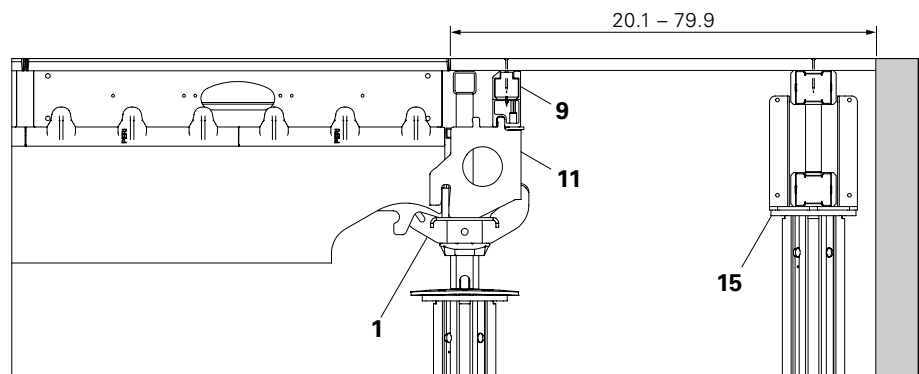
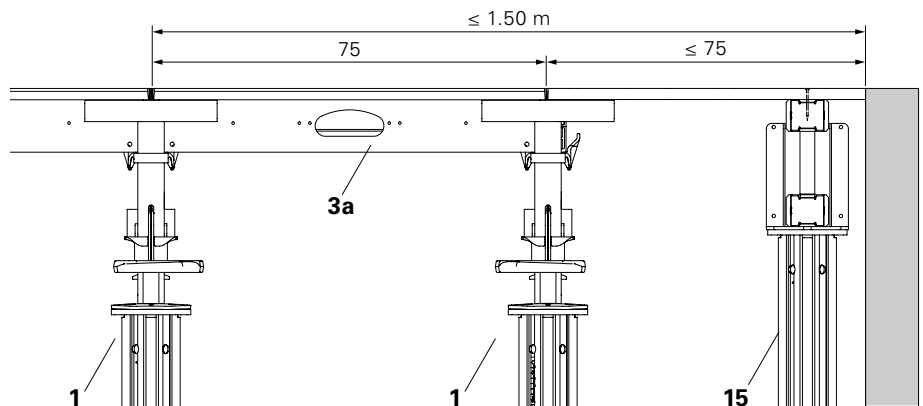
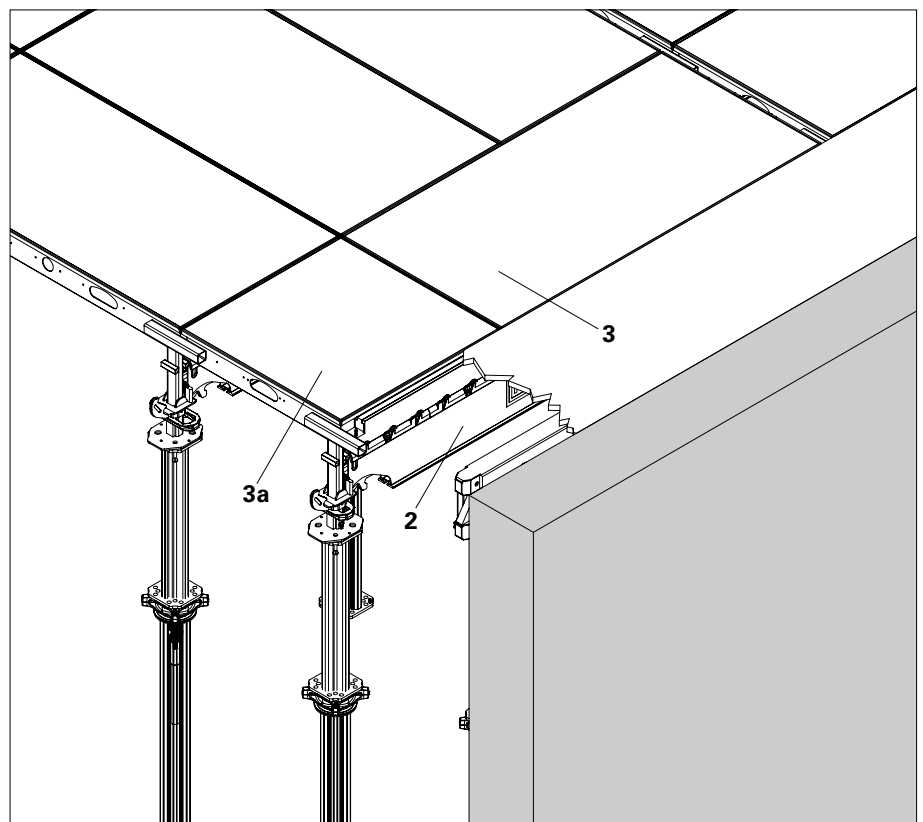
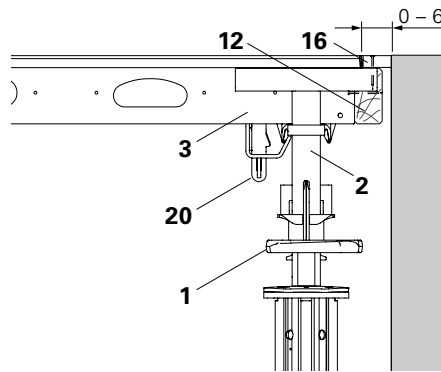

Fig. A5.28
Fig. A5.31
Fig. A5.32
Fig. A5.33
1. Install Main Beam in Drophead SFK (1) (Fig. A5.31), with 180° turned Combihead SCK (7) (Fig. A5.32) or Prophead SSK (6) (Fig. A5.33).
2. Mount End Support (11) and Edge Beam (9).
3. Position additional prop with cross-head and formwork girder (15).
4. Install formlining and secure in position with nails. (Fig. A5.28 – A5.30)
1. Continue forming with prop, Main Beam SLT 225 (2) and transversely-positioned panel (3). Close the spacing to the next prophead with Panel SDP 75 x 75 (3a). (Fig. A5.31 + A5.32)
1. Place Panel SDP (3) over the Main Beam SLT (2) and secure with Panel Wedge Clips (20). (Fig. A5.33 – A5.35)